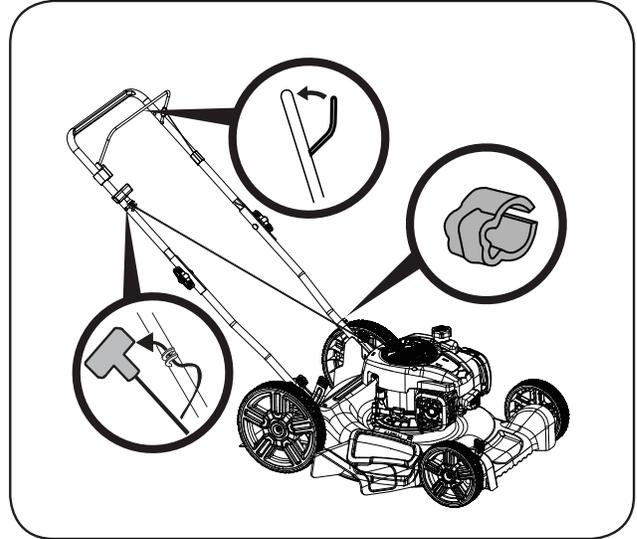

Figure 5
1. Hold the blade control handle against the upper handle (Figure 5)
2. Slowly pull starter rope handle from engine and slip starter rope into the rope guide(Figure 5).
3. Use the cable clamp to secure the control cable to the handle(Figure 5).